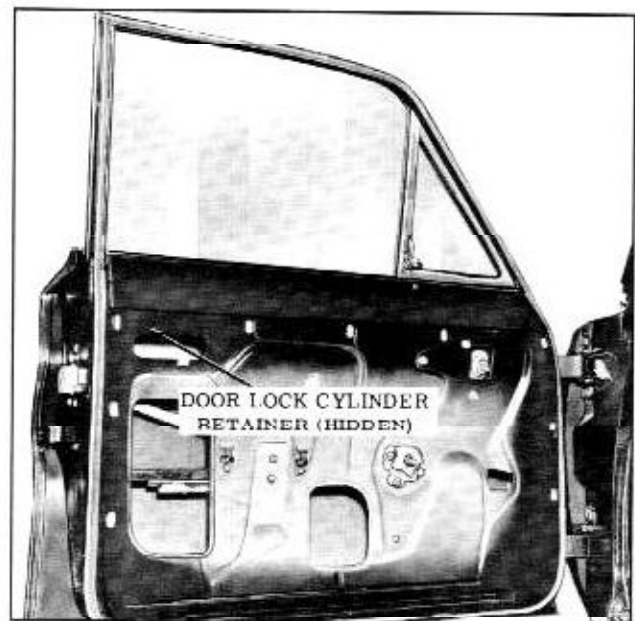

Fig. 15-20 Door Lock Cylinder Attachment
2. With a suitable tool, through access hole slide lock cylinder retaining clip forward sufficiently to allow removal of cylinder, then remove cylinder and gasket. (Fig. 15-20)